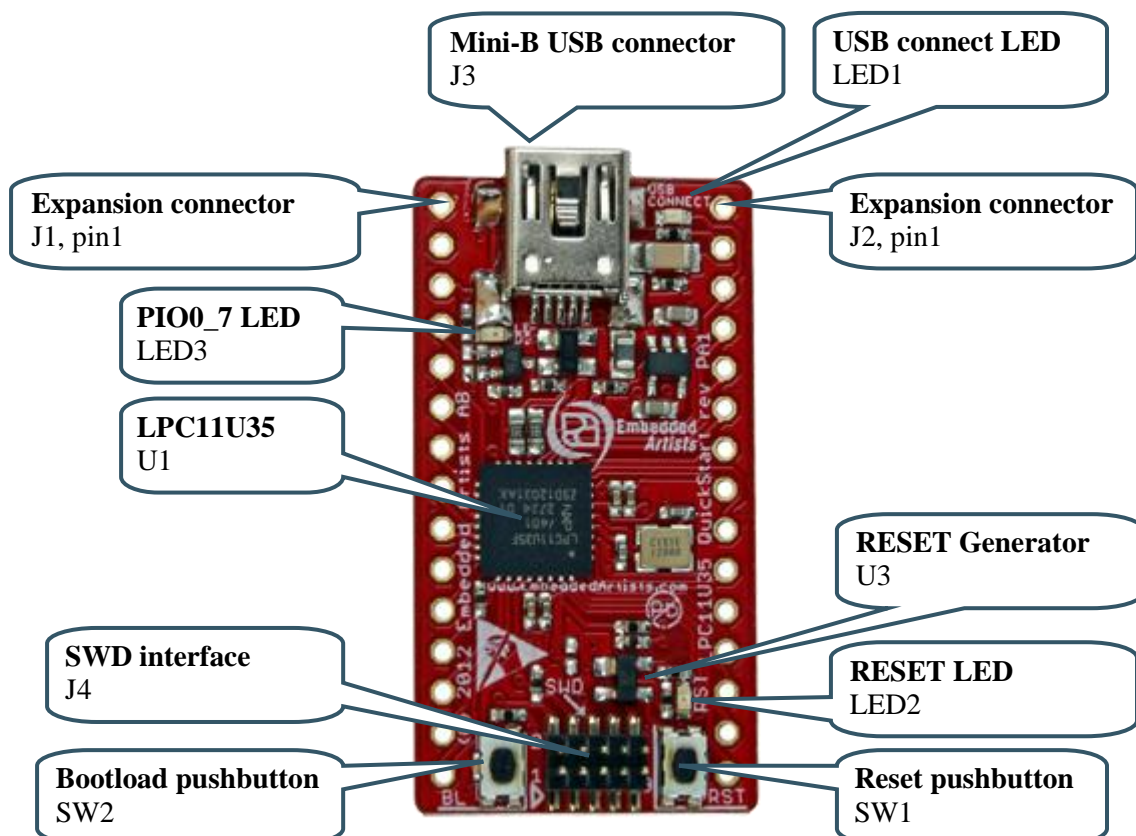

Figure 2 – Main Components on LPC11U35 QuickStart Board
There are two expansion connectors, J1 and J2. They both have 15 positions and are placed at the board edges. See *Figure 2* on page 13 for details about J1 and J2 placement on the board. All programmable pins of the LPC11U35 are available on the expansion connectors; see the table below for details.
Figure 2 below illustrates where the main components in the design can be found on the board.
1. Press both the bootloader push-button (SW2) and the reset push-button (SW1). See Figure 2 on page 13 for details about where to find the two push-buttons.